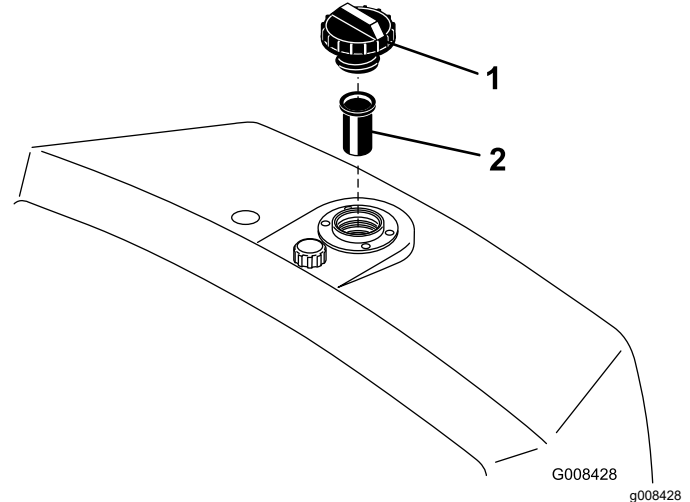

Figure 49
2. Remove the cap from the reservoir and check the fluid level. The fluid should be up to the bottom of the screen in the filler neck (Figure 49).